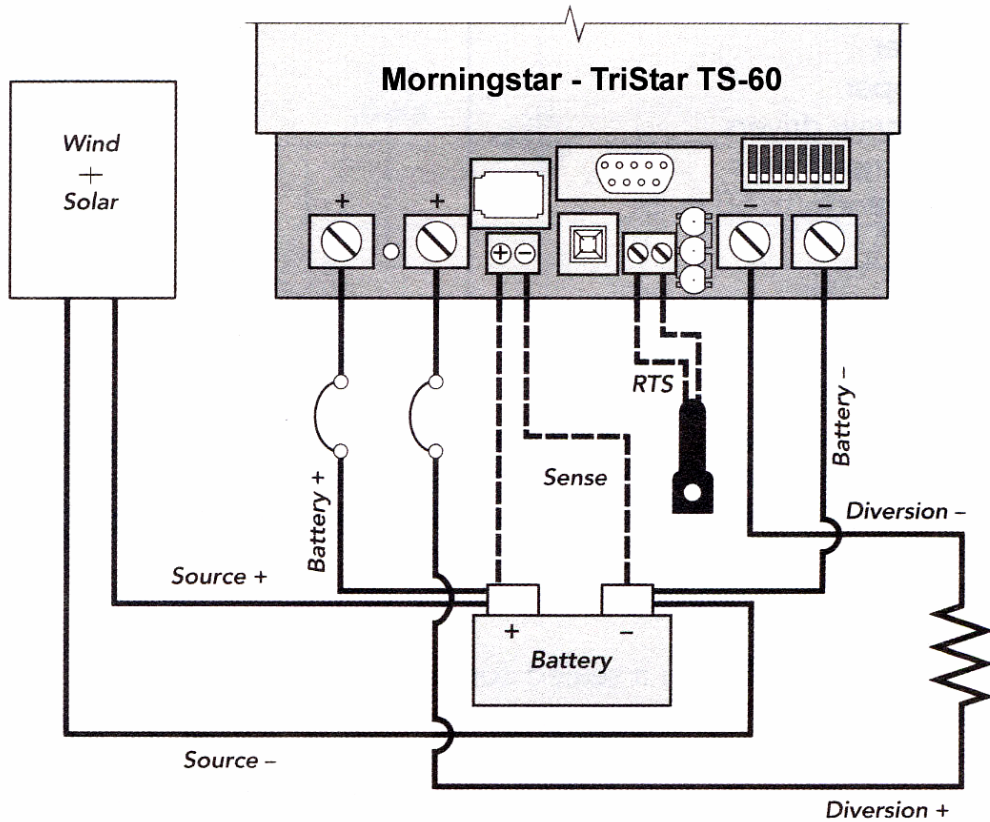

Figure 6, SeaHawk System Connections
The complete SeaHawk VAWT wind power system consists of the SeaHawk VAWT, the included MorningStar TriStar TS-60 Controller, an optional 12, 24 or 48 Volt battery bank and an optional dump load. The SeaHawk system automatically supports optional Photo-Voltaic (PV) solar arrays and connections for the optional solar systems are included in the MorningStar TriStar TS-60 Controller manual. The basic connections from the SeaHawk to the MorningStar TriStar TS-60 Controller are shown in Figure 6. The operating manual for the MorningStar TriStar TS-60 Controller is included with the SeaHawk VAWT. Operational settings and controls for 12, 24 and 48 Volt battery banks is contained within the MorningStar TriStar TS-60 Controller manual. If you require additional information that you cannot find in the MorningStar TriStar TS-60 Controller manual, please call the PacWind factory for support.